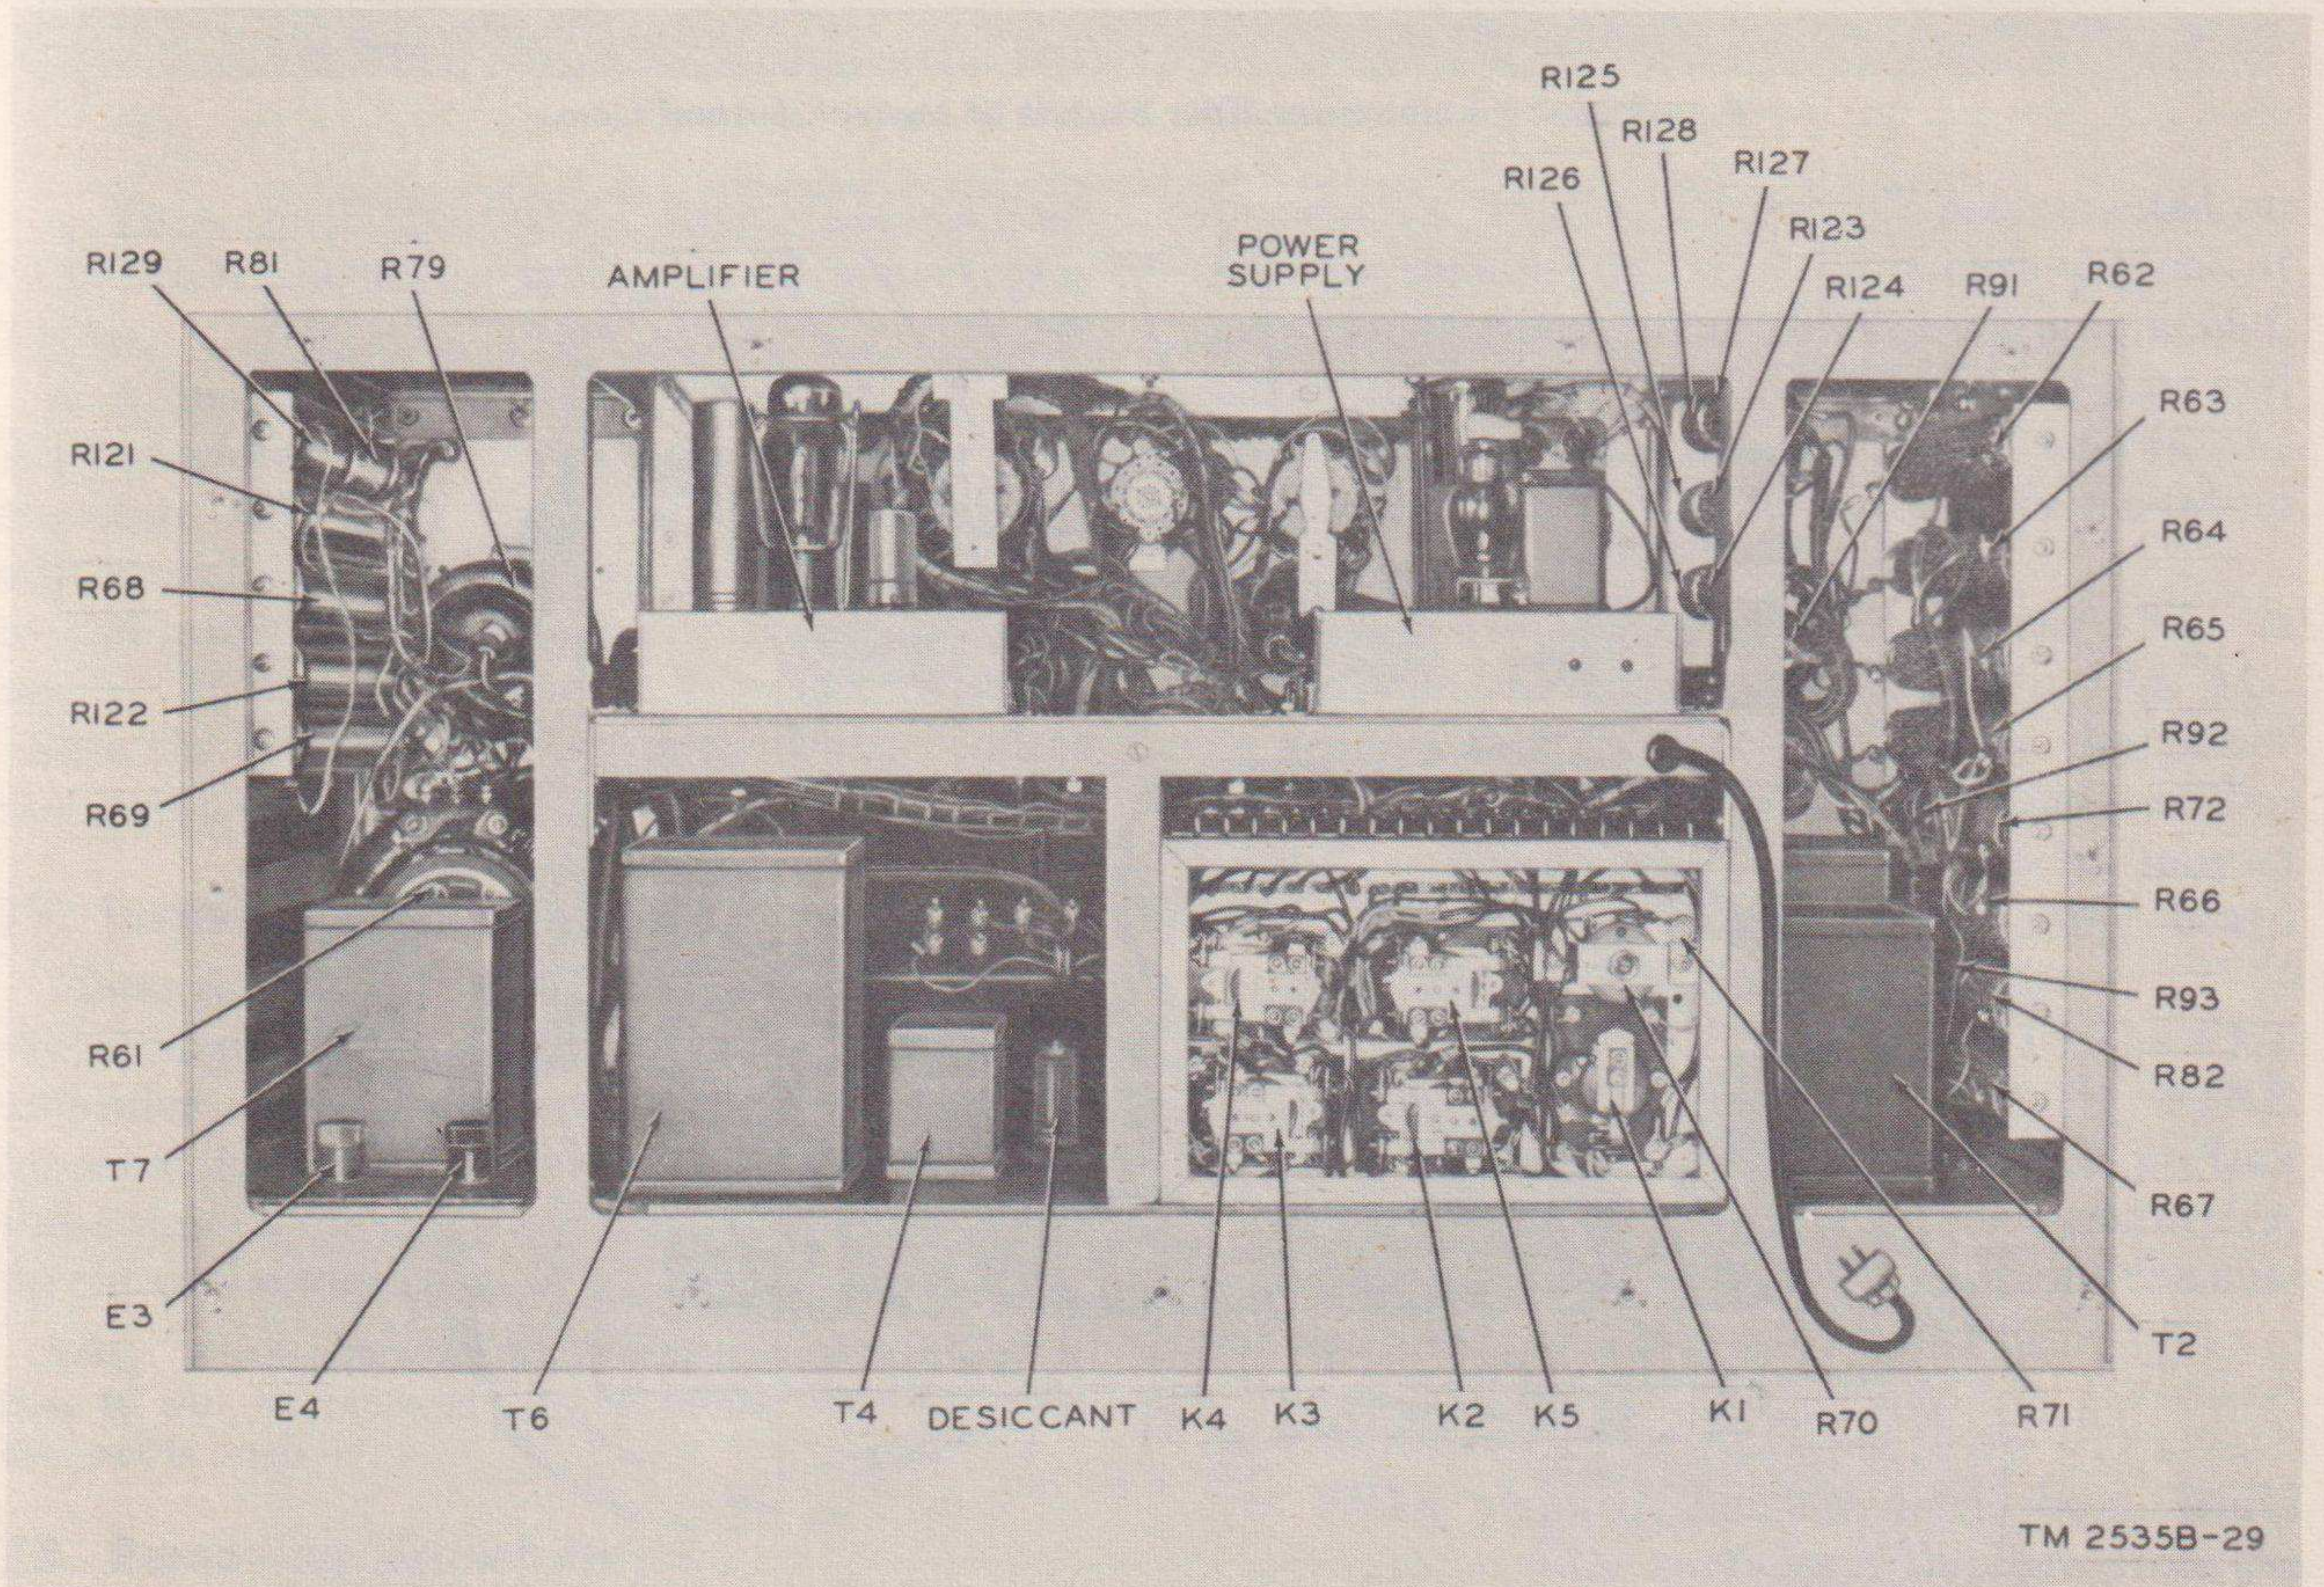

Figure 35. Rear of test set, rear panel removed.
Resistor R121 or R122 defective (fig. 22).	Check resistors R121 and R122 (fig. 35, par. 66c). Replace if defective (par. 69).
Resistor R123 through R128 defective (fig. 27).	Check resistors R123 through R128 (fig. 35, par. 66e). Replace defective resistor or resistors (par. 69).
Transformer T4 defective.....	Check transformer T4 (fig. 35, par. 64i). Replace if defective (par. 78a).
a. *Ac Meter Amplifier.* The ac meter amplifier chassis is located just inside the rear panel of the test set on a shelf below the selector switches (fig. 35). Before removing the chassis, remove tube V5 (6AS7G) from its socket. Then remove the thumbscrews that mount the chassis on its mounting brackets and carefully pull the amplifier from the framework as far as the wiring harness will
b. *Dc Voltage Power Supply.* The dc voltage power supply chassis is located near the amplifier chassis at the rear of the test set (fig. 35). It may be removed for troubleshooting and repair in the same manner as the ac meter amplifier
a. The two lugs of the terminal strip mounted between relay K5 (fig. 35) and rheostat R70 are connected to resistor R71 by two blue leads. A green lead also is tied to one lug of this terminal strip. With the green lead connected to the upper tie point and rheostat R70 fully counterclockwise, connect Multimeter TS-352/U or TS-352A/U between the lower end of the relay coil and the upper tie point on the terminal strip.